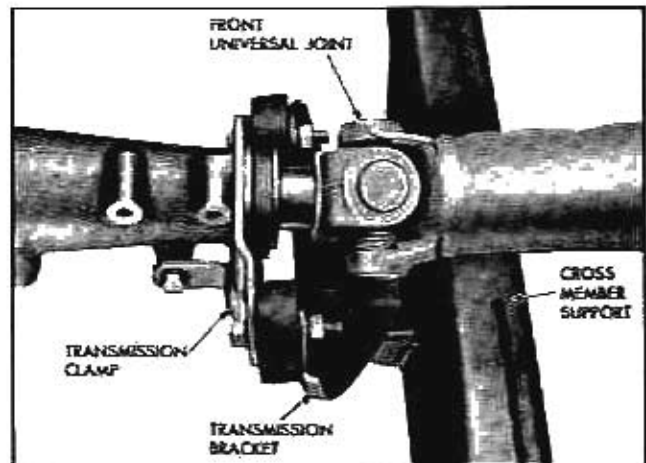

Fig. 7-32 Transmission Rear Extension Support
6. Remove two transmission bracket to cross member retaining nuts (Fig. 7-32).